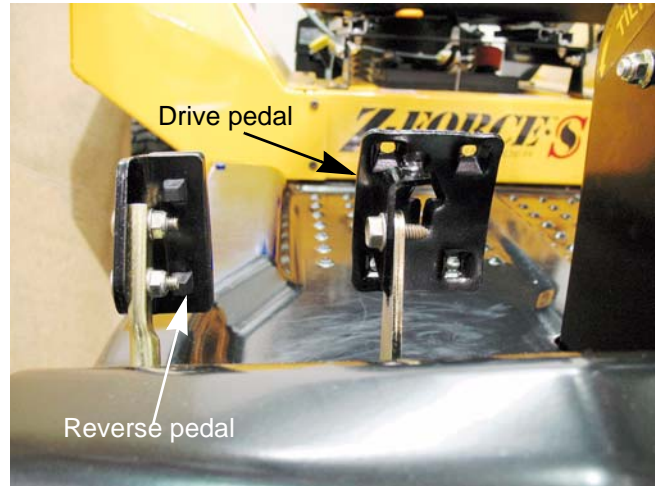

Figure 4.3
8. Remove the reverse pedal using a 7/16" wrench. See Figure 4.3.
9. Remove the drive pedal using a 1/2" wrench. See Figure 4.3.